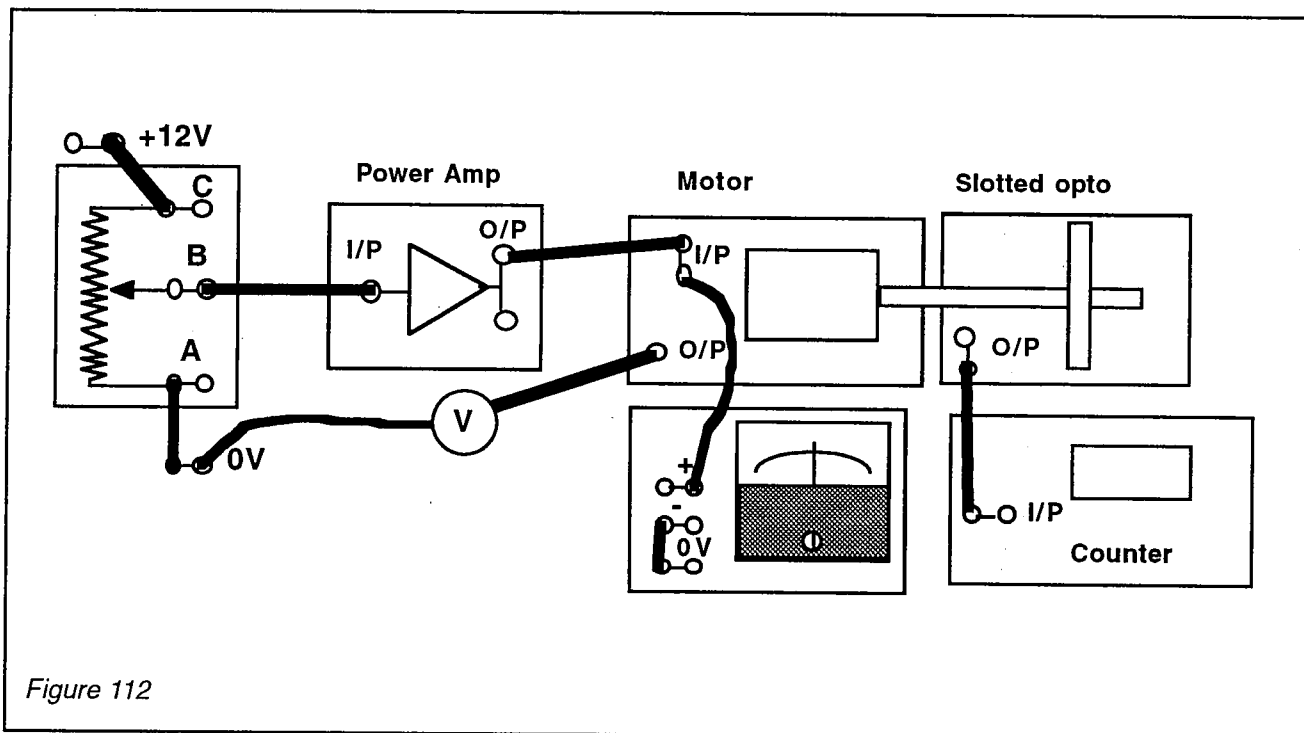

Figure 112
- Connect the circuit as shown in Fig 112, set the resistor control for zero output voltage, (control fully counter clockwise), and set the counter controls to "count" and "1s".